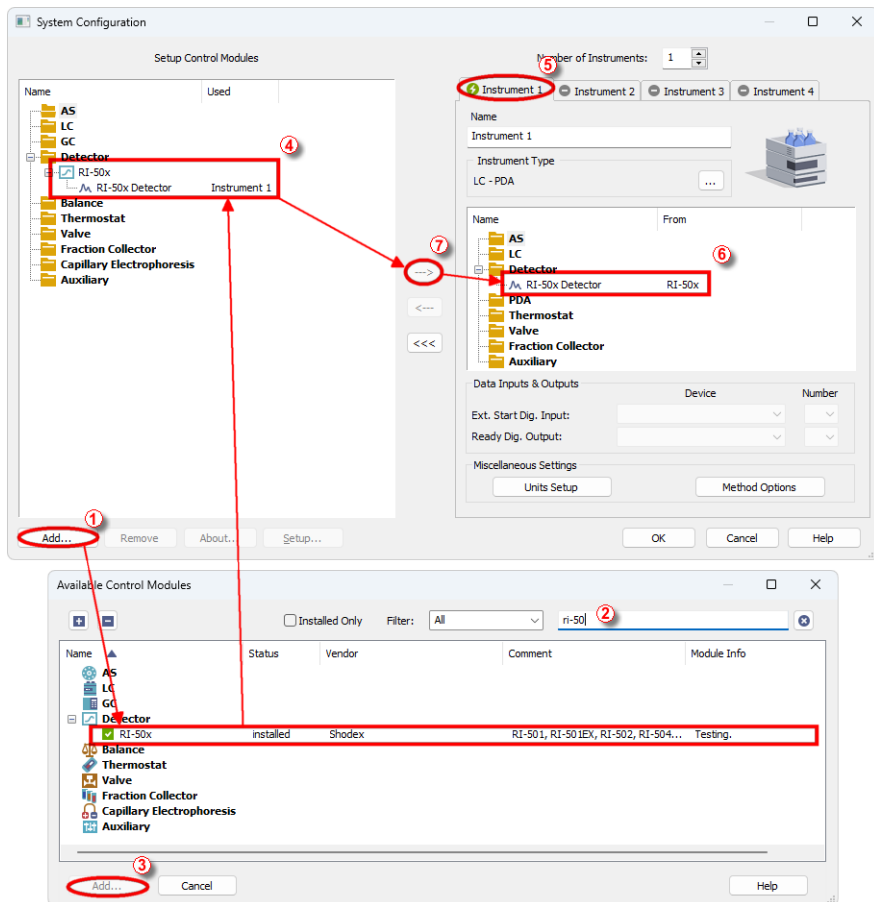

Fig. 2: How to Add Shodex RI-501 module
- Press the *Add* button (1 on Fig. 2 on pg. 4.) to invoke the *Available Control Modules* dialog.
- You can specify the search filter (2) to simplify the finding of the driver.
- Select the correct item and press the *Add* (③ on Fig. 2 on pg. 4.) button. Each device with already created UNI profile should have its own item named accordingly in the *Available Control Modules* dialog.